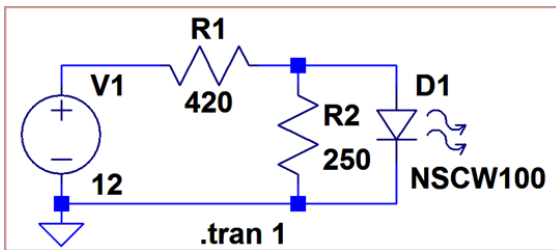
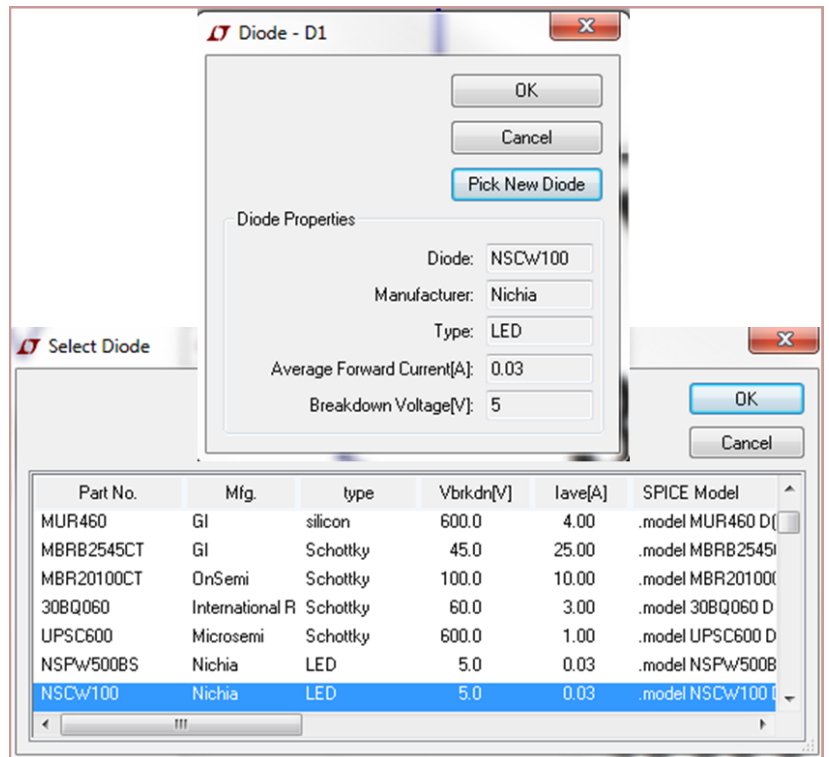

Figure 15. Voltage divider for LED.
Figure 16. Selecting LED.
1. Simulate the schematic shown in Fig. 15. Right click on the diode and select “NSCW100” as shown in Fig. 16. This is a white LED that was chosen for convenience since it was already in LTSpice. Plot the output voltage and all the currents and powers in the resistors and LED. Which device dissipates the most power and why is this bad? **(Schematic, Output Voltage, Currents and Powers)**